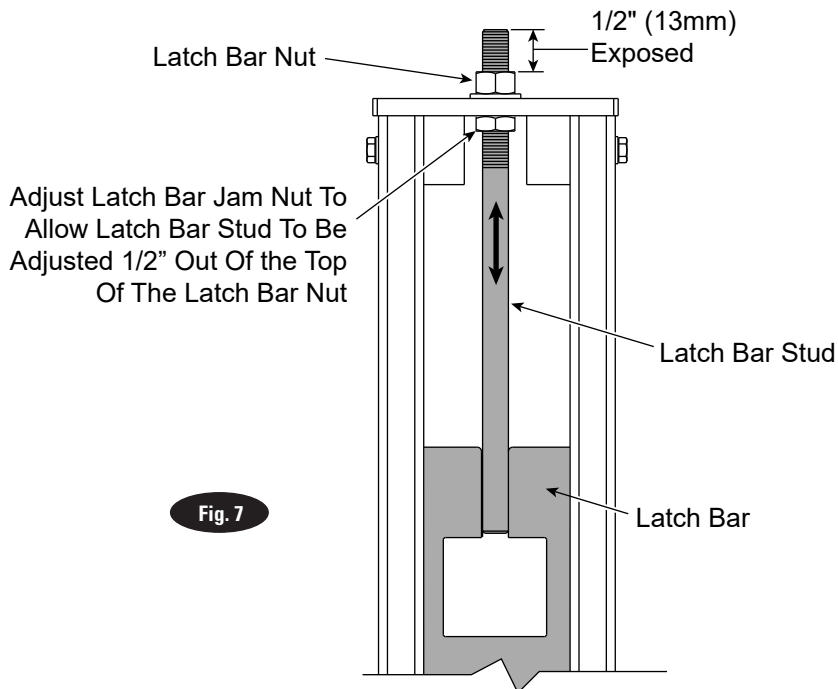

Fig. 7
B.) After column top plates have been installed adjust latch bar nut and latch bar jam nut as shown, Fig. 7.